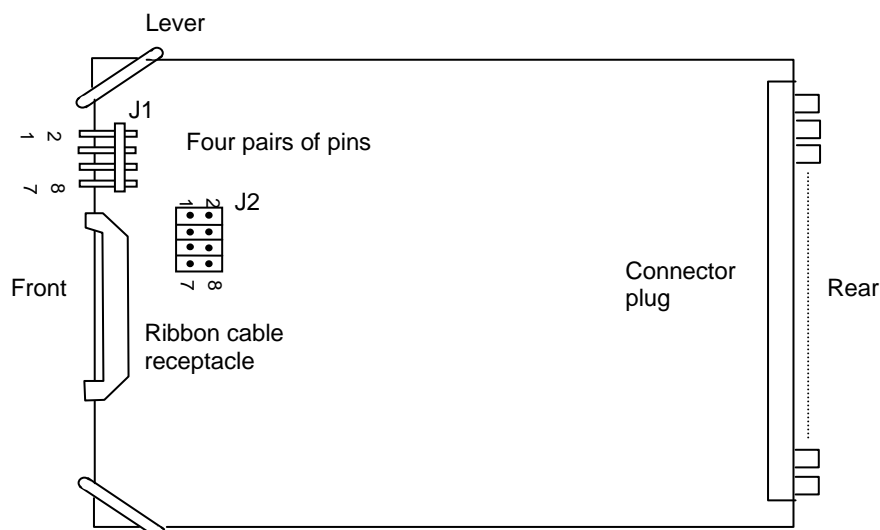

Figure 2.4.16.2 FD Module
- Four pairs of pins J1 and J2 are arranged lengthwise on the front at the top of the module as shown in Figure 2.4.16.2.